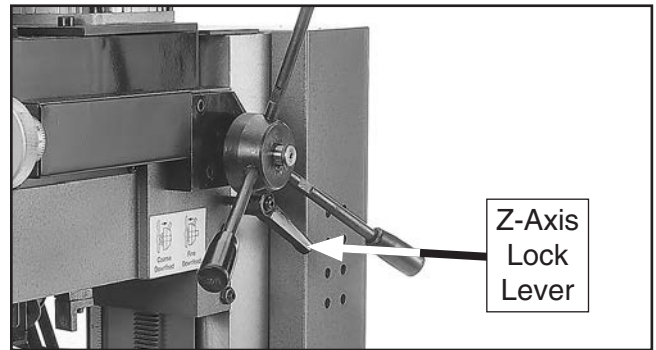

Figure 84. Location of Z-axis lock lever.
1. Loosen Z-axis lock lever shown in **Figure 84**.